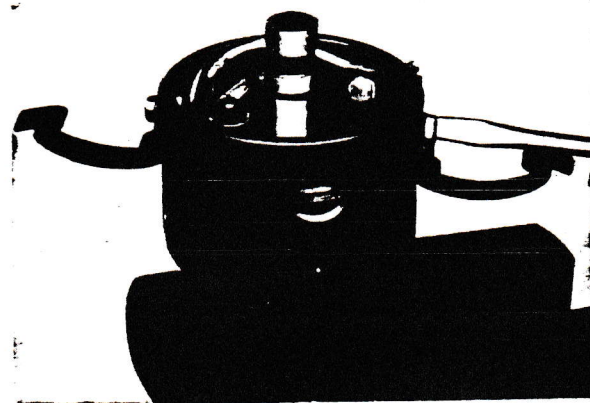

Fig. 69. Removing the breaker plate
4. Remove the breaker plate. This is done by unscrewing the two screws which hold the catch springs for the cap, see Fig. 69.